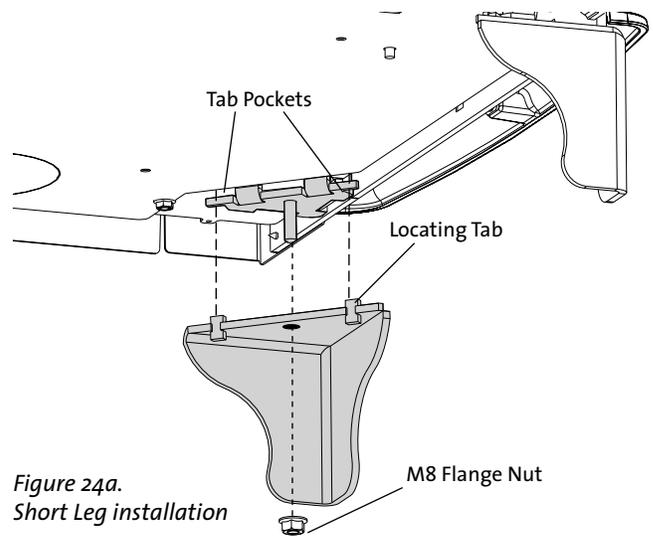

Figure 24a.
2. Engage the steel leg with the mounting stud. Be certain the two locating tabs on each leg seat with the corner pockets in the stove bottom. Tighten the nuts using the 13 mm wrench and carefully set the stove back down. See fig. 24a.